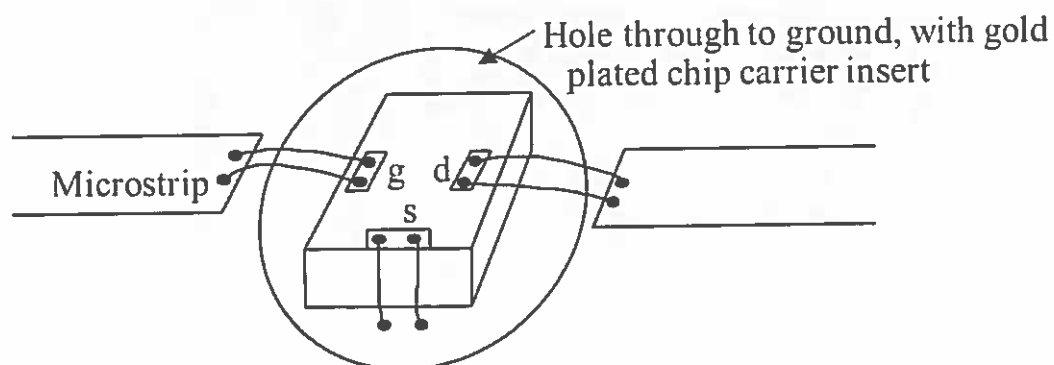

Figure 2.1 Bare-chip FET assembled into a hybrid microwave integrated circuit
2. Consider a FET that has been assembled into a hybrid microwave integrated circuit, as illustrated in Figure 2.1, which employ isolated bond wires of 1 mm length.